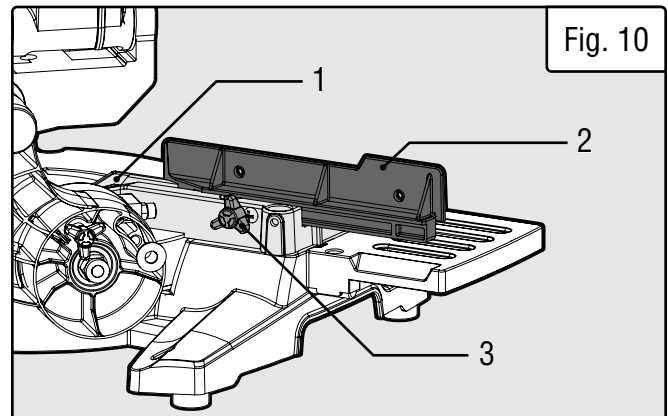

Fig. 10
1. Loosen the fence adjustment knob (Fig. 10 - 3).
2. Adjust the fence as desired. The top portion of the left fence (Fig. 10 - 2) can slide to the left and right, while the bottom portion of the fence (Fig. 10 - 1) stays stationary.